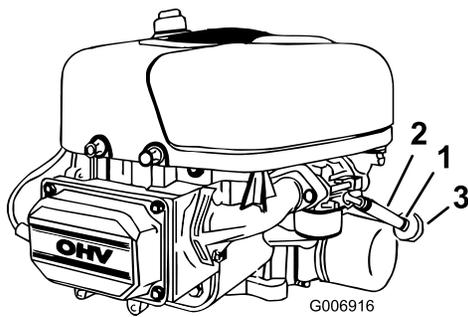

Figure 34
5. Open the hood and locate the fuel filter (Figure 34).
6. Squeeze the ends of the hose clamp together and slide it up the fuel line toward the fuel tank (Figure 34).
7. Pull the fuel line off of the fuel filter (Figure 34) and allow petrol to drain into a fuel container or a drain pan.
The best time to replace the fuel filter (Figure 34) is when the fuel tank is empty. Never install a dirty fuel filter after it has been removed from the fuel line.
4. Squeeze the ends of the hose clamps together and slide them away from the fuel filter (Figure 34).